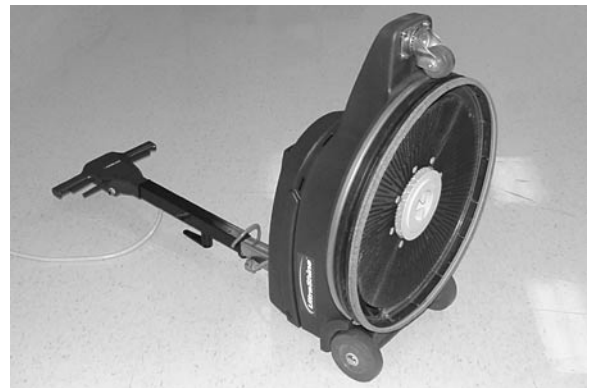

FIG. 1
2. Pull the handle height adjustment lever and raise the handle to the upright position. Carefully tilt the machine backwards and rest the handle on the floor (Figure 1).